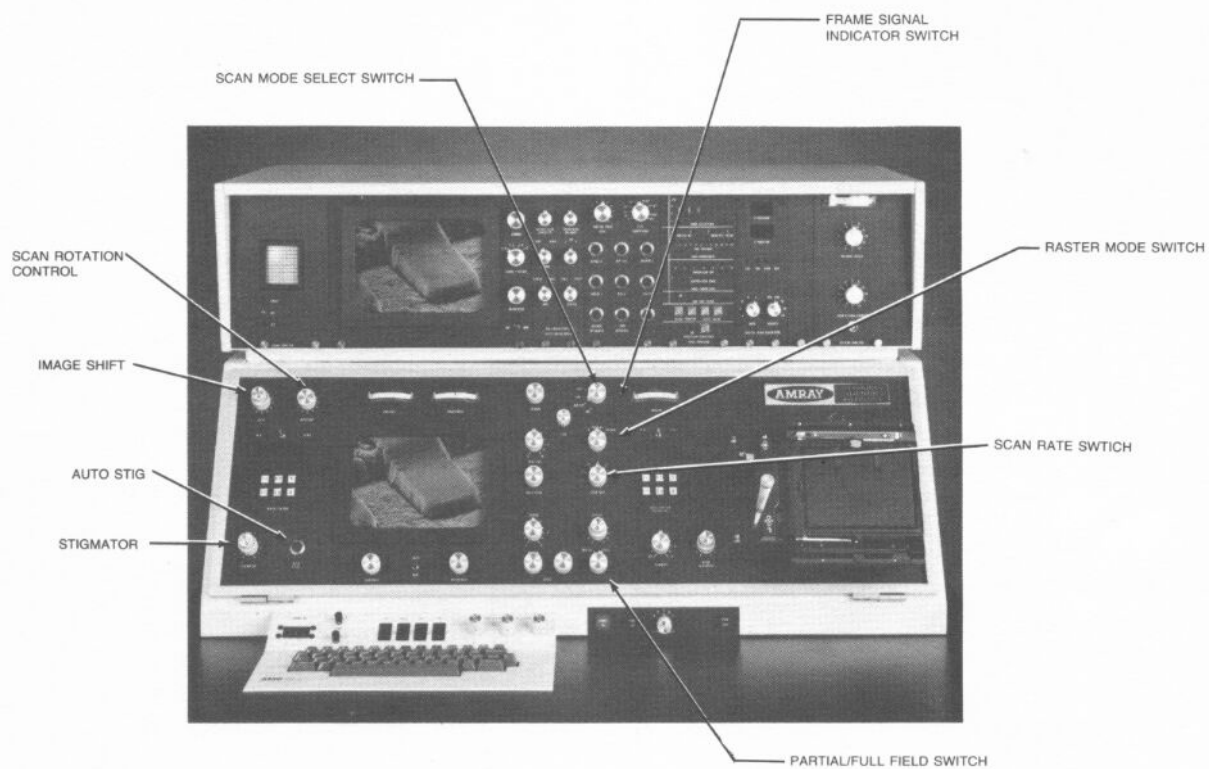

Figure 1.6
D. Scanning Control System (figure 1.6)